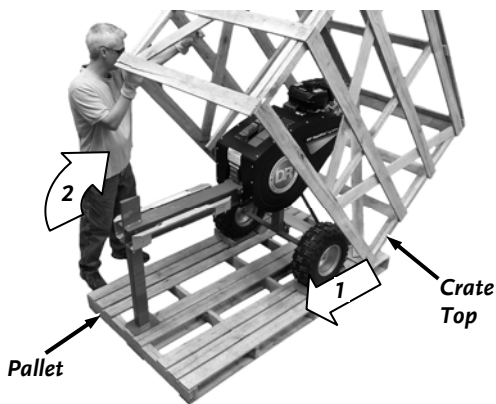

Figure 3
3. Pull the Crate towards the front of the Pallet (arrow 1) to create room so you can then lift it up and rotate over (arrow 2) to the back of the machine (Figure 3).